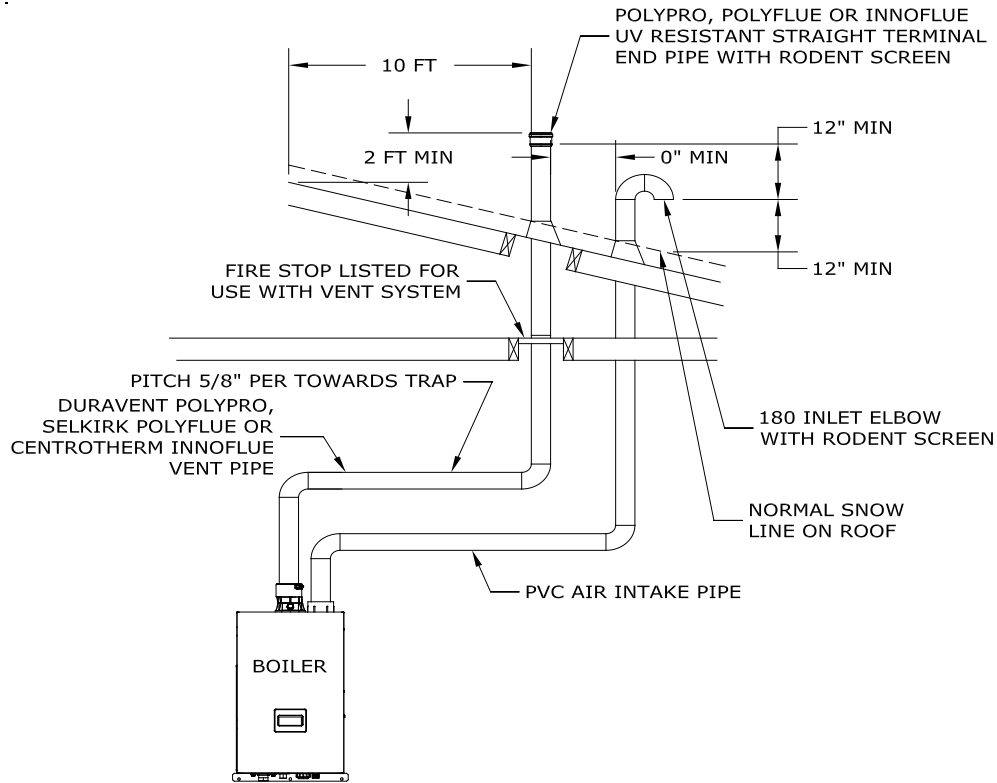

**Figure 7.15: Vertical CPVC/PVC Venting (Vent Options 10 & 11, Terminal Option H)**
- For terminal option H, maintain at least 12" of vertical separation between the exhaust and intake opening as shown in Figure 7.15 and 7.17.